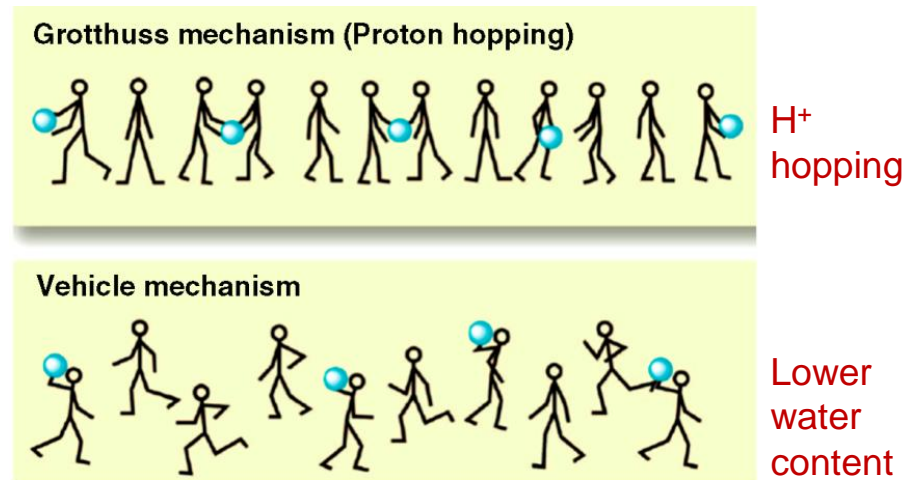

Figure 9.10 Scheme of proton-transfer mechanisms (vehicle and Grotthuss mechanisms). *Source:* Ueki 2008. Reproduced with permission of American Chemical Society.
-Conducting mechanism: Fig. 9.10